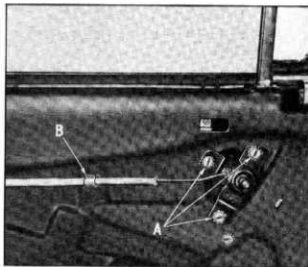

Fig. 6—Remote Control Attachment
- Remove the three remote control assembly attaching screws "A" (fig. 6) from door inner panel.